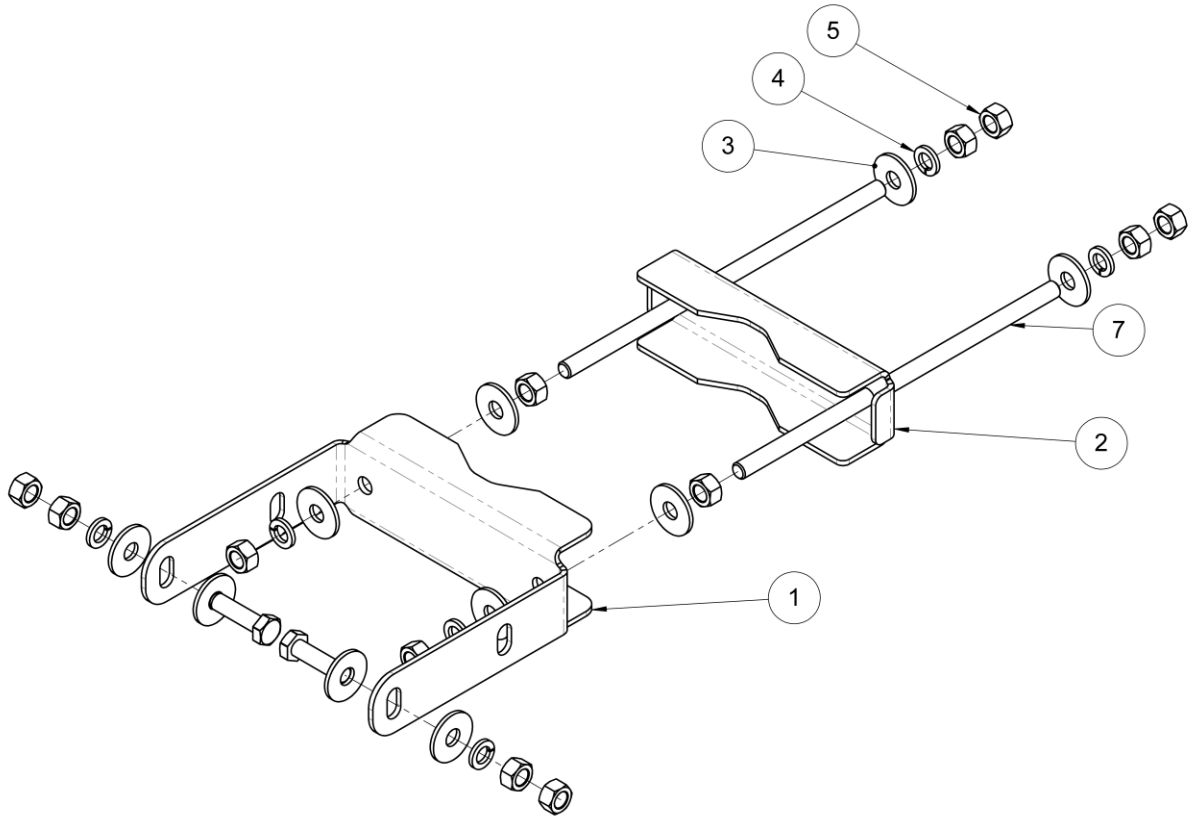

Fig. 1: Dual Position Mast Bracket Kit BOM
- 1 To achieve 5° of downtilt, attach the dual position mast bracket, illustrated in Fig. 1, to the top hinge bracket of the antenna, as illustrated in Fig. 3 and 5. Refer to the materials list shown in Fig. 1, to properly identify the required items.
| 3 | The bracket comes preconfigured for 5° of tilt, to configure the bracket for 0° tilt, (referring to 'Item List' in Fig. 1) remove items 3, 4, 5 and 6 from the assembly and place in the positions shown on the Dual Position mast bracket, as illustrated in Fig. 4. |